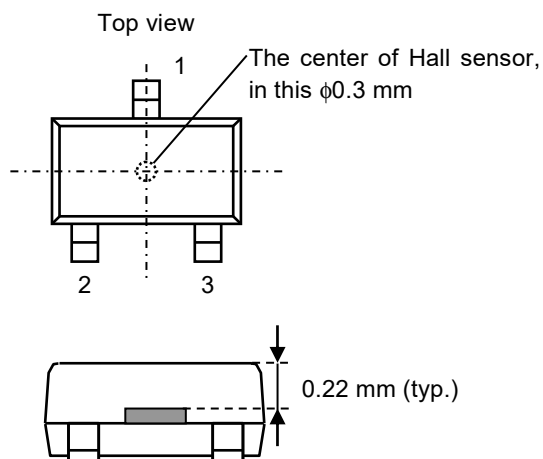

Figure 14
**Figure 14** and **Figure 15** show the position of Hall sensor.